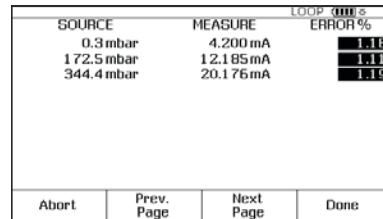

Figure 7.
4. Press the **Manual Test** softkey to begin calibration. Apply the input pressures as instructed in the SOURCE screen. Press the **Accept Point** softkey when the correct pressure is applied for each point. When the test is complete, the error summary table is displayed (Figure 7). Test errors exceeding the tolerance are highlighted. When done viewing the table, press the **Done** softkey. Press **Done** again to accept, or to change the tag, serial number or ID fields.